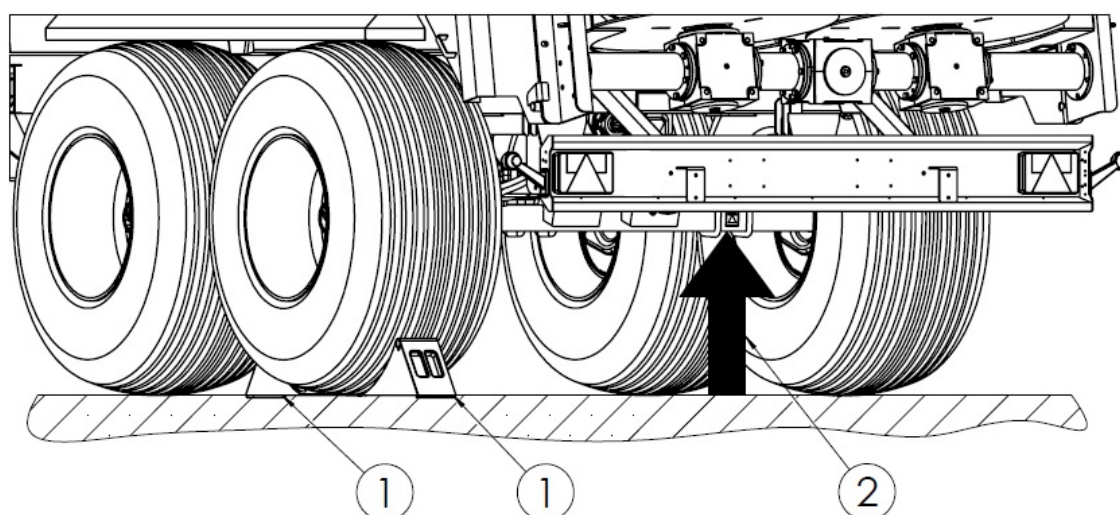

Figure 40. Jacking points:
If it is necessary to disassemble the wheel, observe the jacking points (2) under the axle. The lifting point is shown in Figure 40. Place the safety chocks (1) under one wheel only.